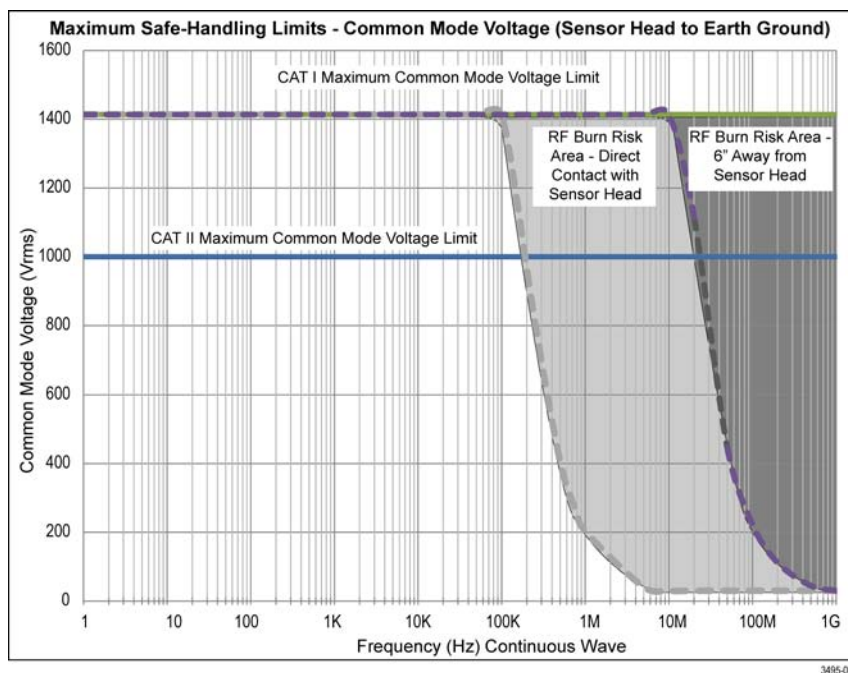

Figure 1: Maximum safe handling limits for common mode voltages between the sensor head and earth ground.
*Be sure to check the maximum ratings and derating curve for more information on the RF burn hazard zone. (See Figure 1 on page 5.)*